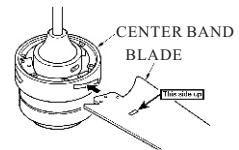

FIG.3
Attached each blade assembly to the center band using the blade screws and blade washers. Tighten them securely.(see Fig.3& 4)
5. INSTALLING THE WIRELESS WALL TRANSMITTER (FIG.3)